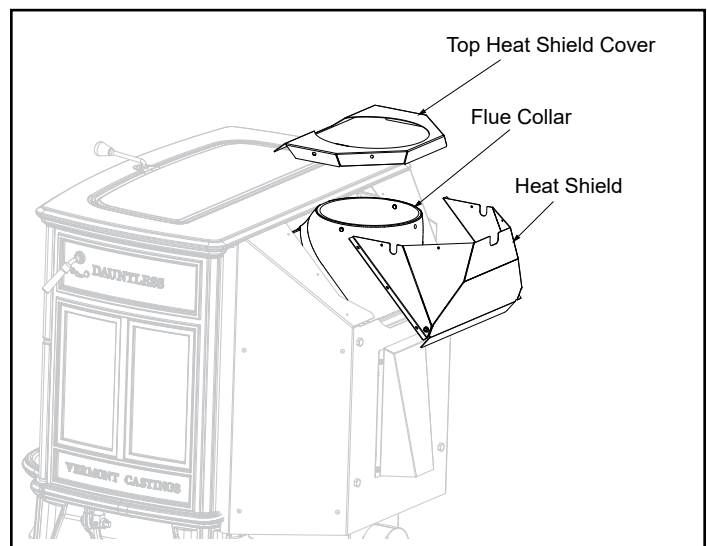

Figure 5.6
1. Remove (10) #8 Tek screws from the heat shield cover and heat shield. Remove heat shield and cover, Figure 5.6.
2. Remove (2) 1/4-20 pan head screws from the flue collar. Remove flue collar, Figure 5.6.